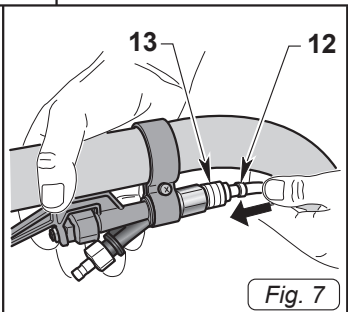

Fig. 7
- Connect the hose (12 Fig. 7) coming from the nozzle quick connector (13 Fig. 7) of the dispenser lever; push the lever to release, the quick connector (13 Fig. 7).